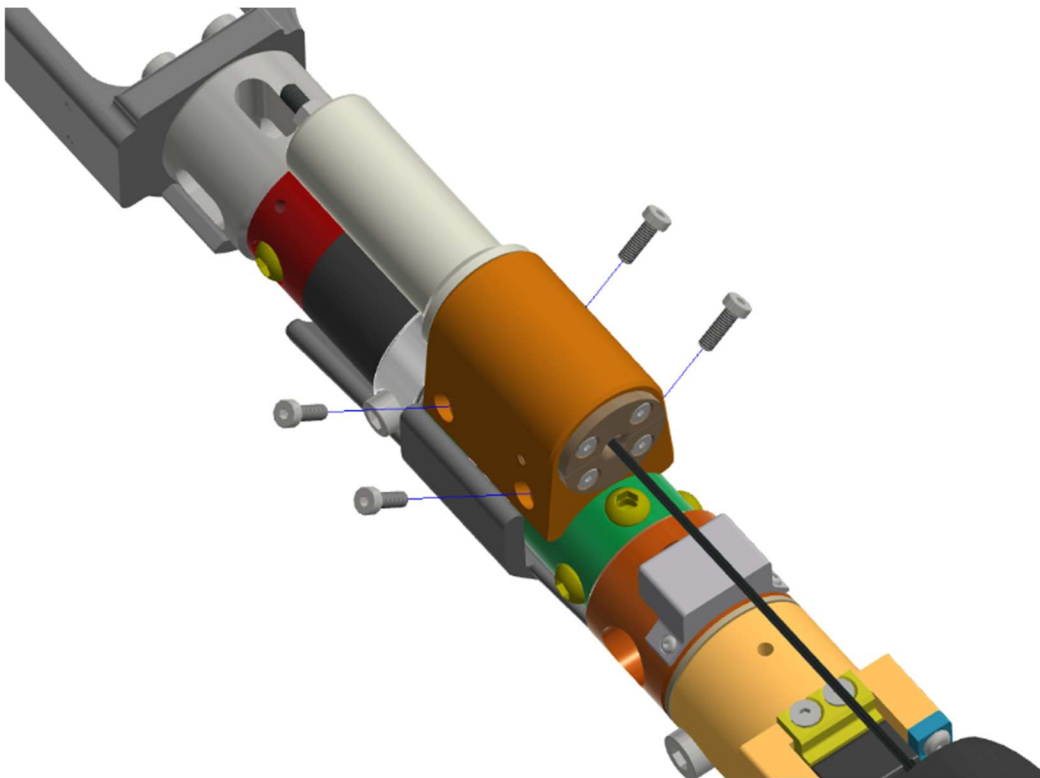

Figure 10-64. Attach the Achilles Assembly to the lower leg using four M4 X 0.7 X 12 LG. LHCS
10.3.29 Attach the Achilles Assembly to the lower leg using four M4 X 0.7 X 12 LG. LHCS (Figure 10-64).